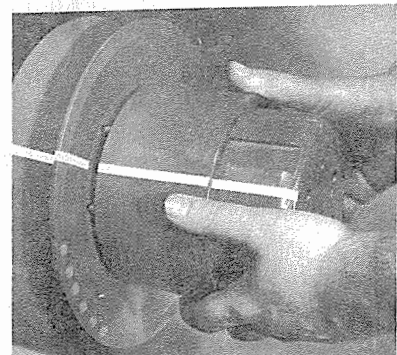

Figure 35
5. Place spring cartridge over the adjustable flange and align all location marks. Guide the studs on the bottom of the cartridge into the holes in the adjustable flange, as in Figure 35.